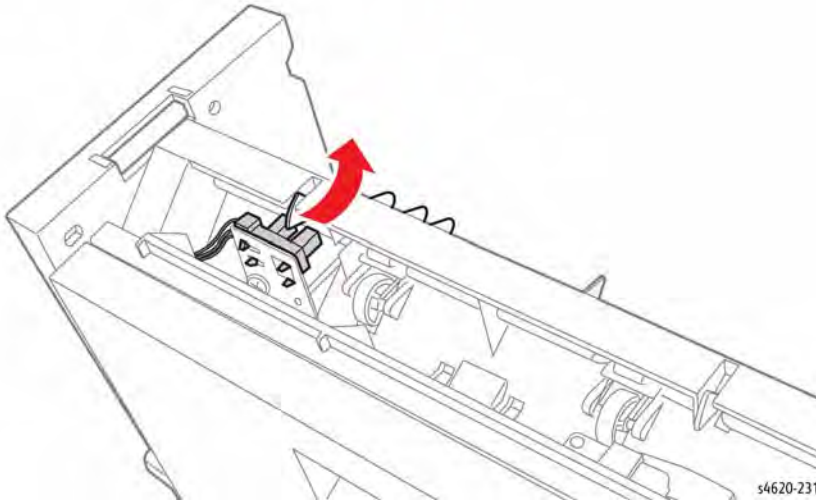

Figure 2 Remove the Stack Full Sensor
7. Slide the insulation off the switch terminals and using a small screwdriver, release the harness connectors from the switch, Figure 2.